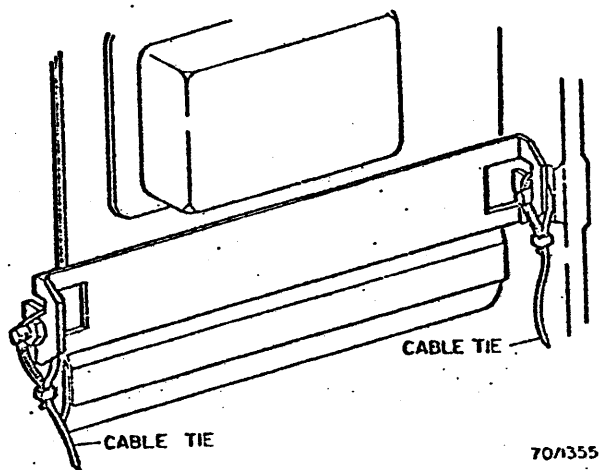

Fig. 2-3. Developer Tie-down Points
5. Unlatch developer assembly and remove developer ties (Fig. 2-3). Slide the developer back against its stops, and tighten the wing-nut on the inboard mounting bracket.